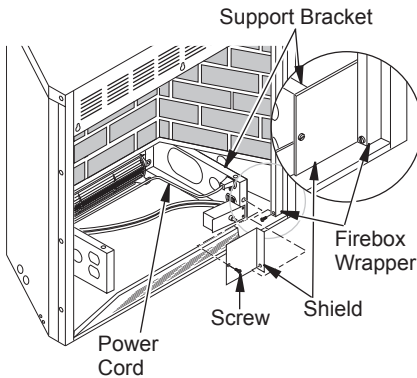

Figure 16 - Installing Shield to Support Bracket
5. Install shield to end of right support bracket and behind the firebox wrapper with 2 screws provided (see Figure 16, page 12).